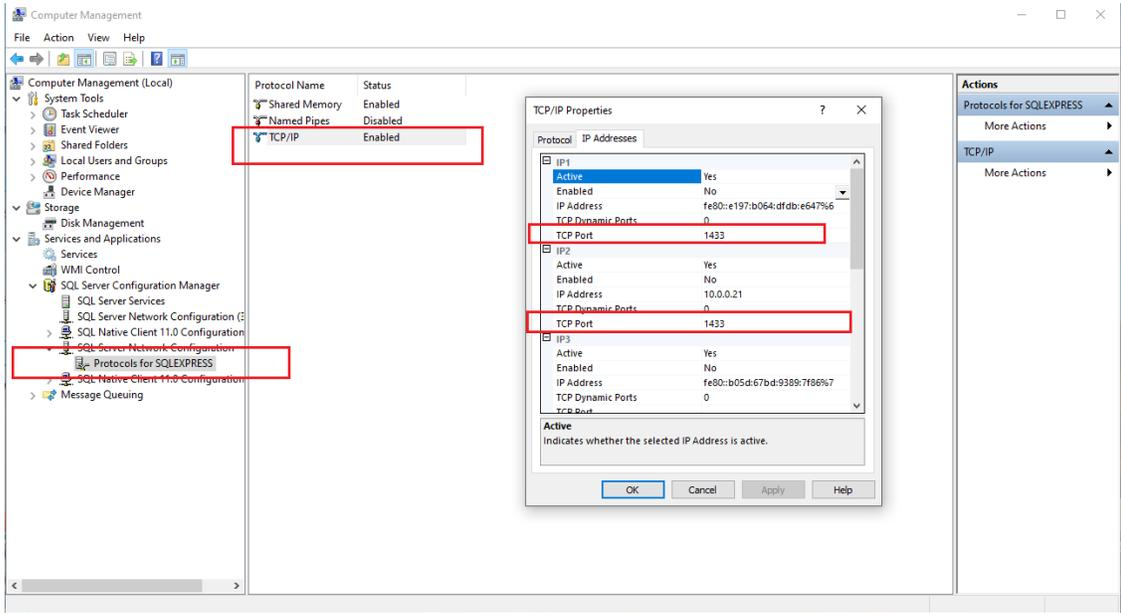

Figure 34
18. Enable TCP/IP and add port 1433 to all IPs. (Figure 34)